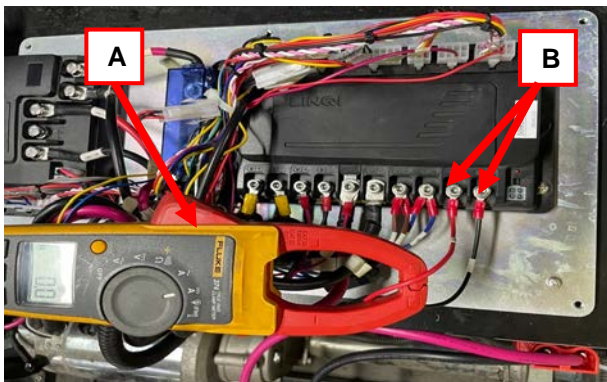

Figure 60
1. Apply amp clamp (A, Figure 60) to one of the filter shaker motor cables (B, Figure 60).